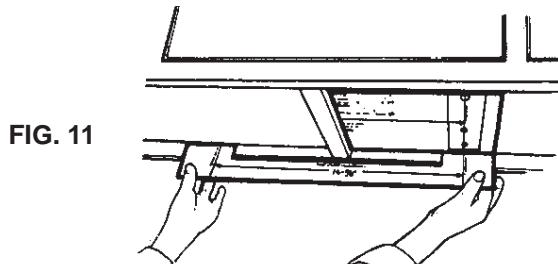

FIG. 11
- Attach Template 1 to rear of cabinet and align arrow with hole center line on Template 2. (Fig. 11)